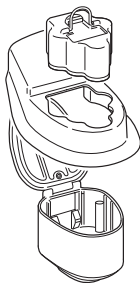

Figure 3 – Install Battery
5. While aligning the battery's housing profile with the transfer shield and chamber opening, place the non-sterile battery into the chamber (Figure 3).